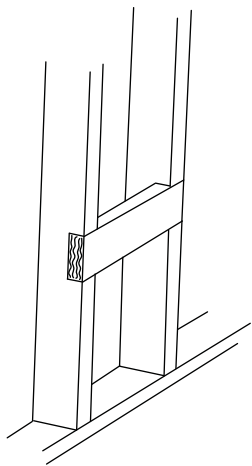

figure 1
**Important:** The metal mounting bracket must be anchored to a solid structure assuring a safe and secure installation. As a minimum standard, follow recommended stud wall with header installation shown in figure 1 on the next page. If the supplied screws/rawplugs are not suitable for your installation you must provide appropriate ones.